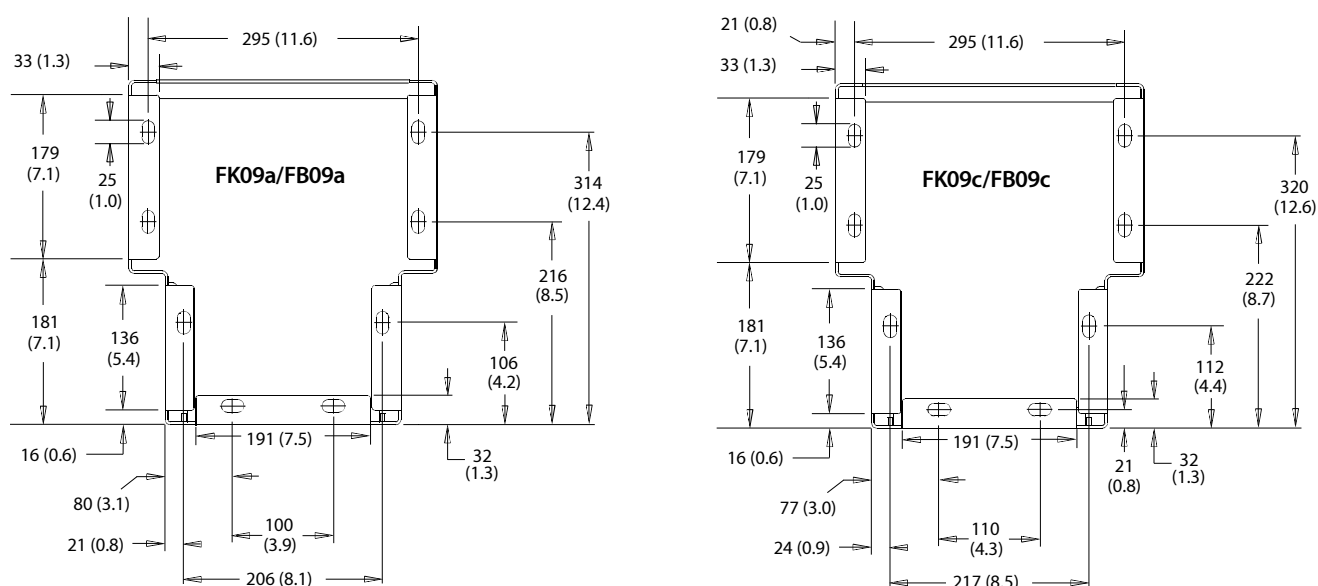
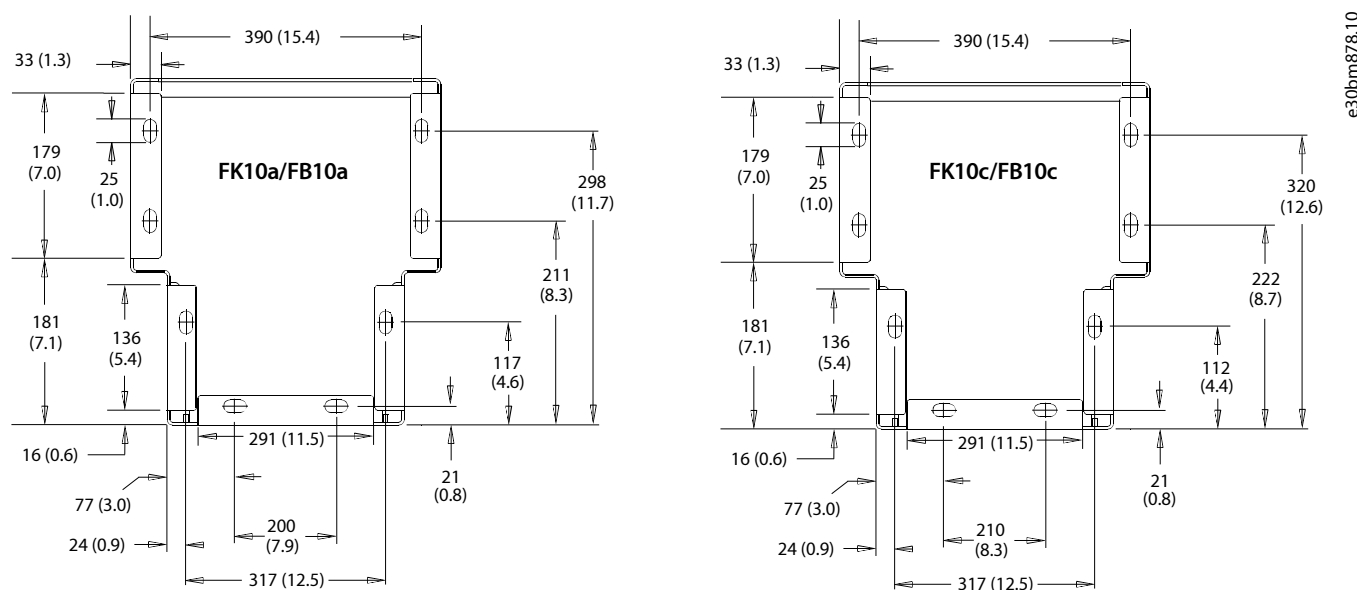

Figure 2: Dimensions for Pedestal Mounting Holes (FK09/FB09 Frames)
Figure 3: Dimensions for Pedestal Mounting Holes (FK10/FB10 Frames)
2. Use the dimension drawings to create mounting holes for the pedestal. See Figure 2 and Figure 3.